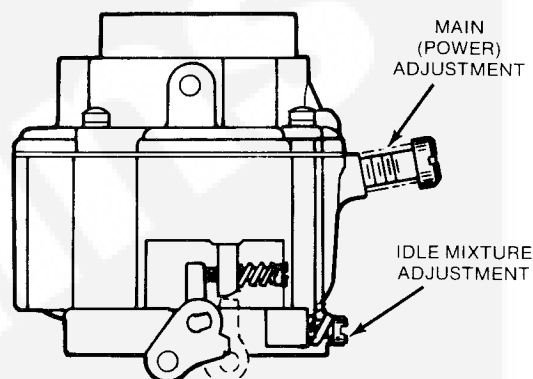

FIGURE 12. CARBURETOR FUEL MIXTURE ADJUSTMENTS
The "LPG" generator set carburetor has two mixture adjustments, an idle mixture which affects operation mainly at no load and a main (power) adjustment which affects operation at maximum load (Figure 12). If your generator set has a "hunting" (sudden surges and drops in speed) condition at no load or full load and cannot be corrected by carburetor adjustments, check governor linkage and adjustment. A hunting condition at no load can usually be corrected by a carburetor idle mixture and/or throttle stop screw adjustments.
1. Turn idle mixture screw out (counterclockwise) 1/4 turn from seated position. See Figure 12.
2. Turn main mixture screw out (counterclockwise) 7/8 of a turn from seated position. See Figure 12.
- Hold back governor so that throttle lever rests on throttle stop screw. The throttle stop screw is located on the base of the carburetor. Adjust throttle stop screw to 1680 RPM (56 hertz or 112 volts). See Figures 12 and 15. Release governor arm.
- Apply full AC load to generator set and adjust main mixture screw with set running at 1800 rpm (60 Hz). Starting with nominal carburetor settings, turn main screw clockwise (lean) until speed increases to max rpm (about one hertz more), then richen mixture 1/8 turn (counter-clockwise) from max rpm point. See Figure 12.
10. Remove all load to generator and adjust idle mixture screw as follows: Adjust throttle stop screw to hold governor at 1800 rpm (60 Hz). Turn idle screw lean, from nominal setting, (clockwise) until speed falls 50 rpm (about 1-1/2 Hz), then richen mixture 1/8 turn from that point. Re-adjust throttle stop screw to 56 Hz. See Figures 12 and 15.